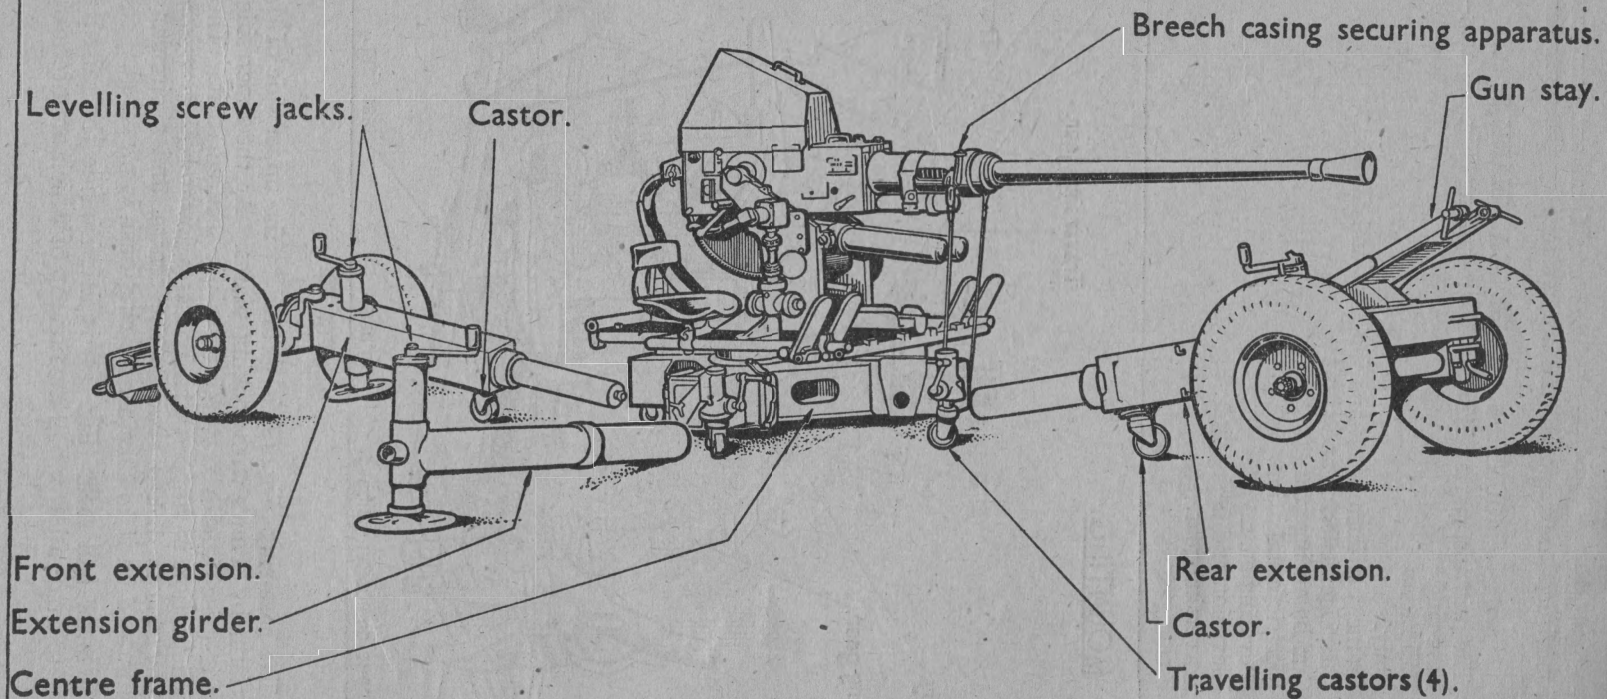

FIG. 17.
32. The **Mark 4 platform** (Fig. 17) which is designed to accommodate **Marks 1 to 4 mountings**, is the **Mark 3 platform** modified to allow for close stowage purposes.